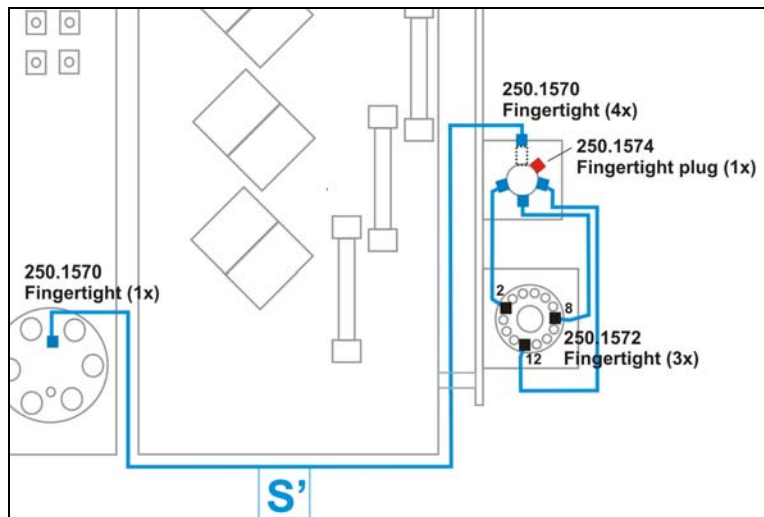

Figure 12. Assembly S', TCC time resolution configuration.
- f. For the installation of the TCC time resolution configuration, see figure 12 below.